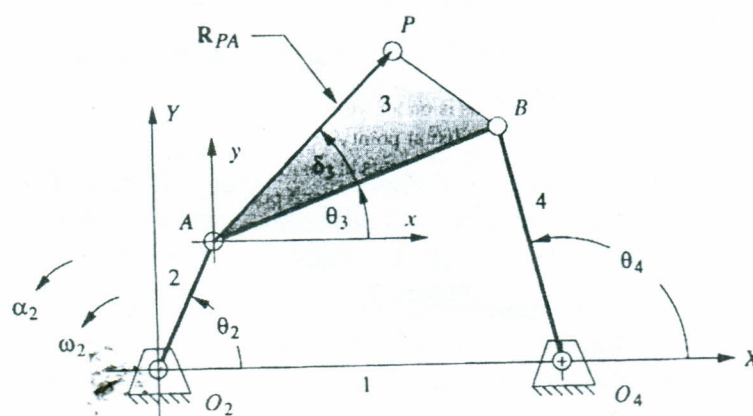

Figure 5
- Q.5A The linkage in **Figure 5** has $O_2O_4 = 508$, $O_2A = 254$, $AB = 127$, $AP = 26$, $BO_4 = 254$, angle $AO_2O_4 = 33^\circ$, angle $\delta_3 = 0^\circ$. $\omega_2 = 25$ rad/s. and $\alpha_2 = -40$. Draw the linkage to scale and graphically find the accelerations of the pin joints A & B. then calculate α_3 & α_4 and the acceleration of point P.